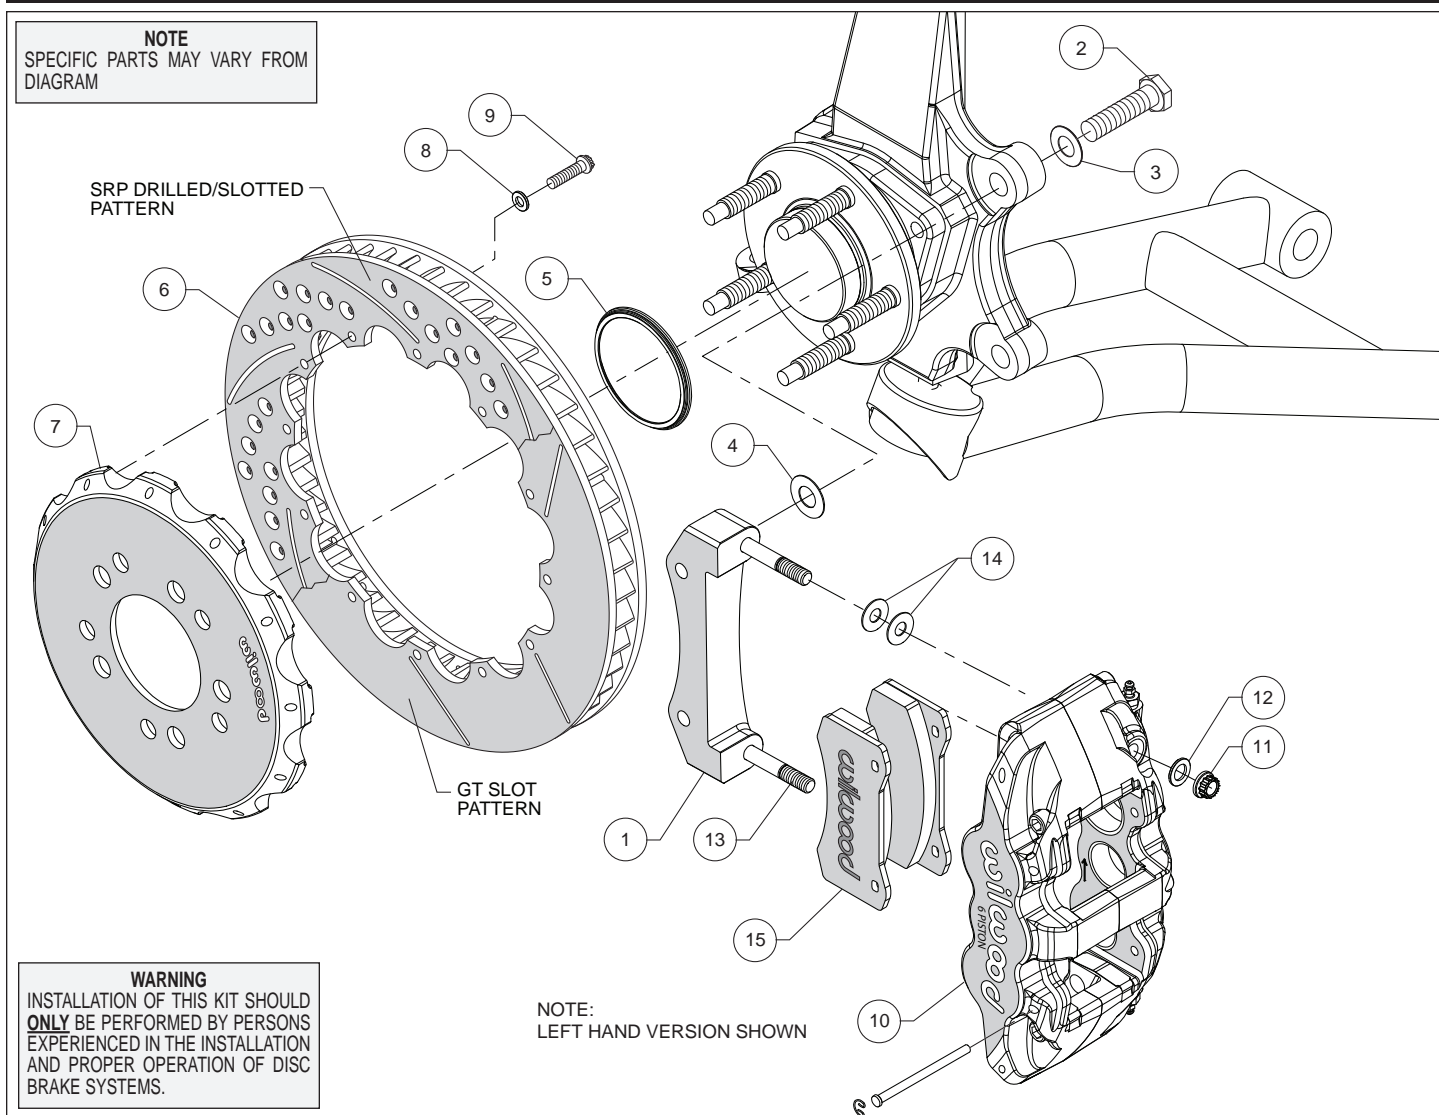
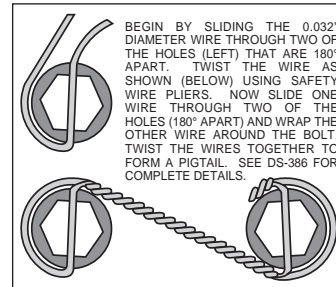

Figure 1. Typical Installation Configuration
Figure 3. Safety Wire Diagram
Assembly Instructions (numbers in parenthesis refer to the parts list and Figure 1 on the preceding pages):
- The caliper mount bracket (1) should initially be installed with clean, dry threads on the mounting bolts. Orient the bracket as shown in Figure 1, and install using bolts (2) and washers (3). Initially place one .029 thick shim (4) on each bolt between the bracket and upright, Figure 1. Temporarily tighten the mounting bolts. **NOTE:** *The bracket must fit squarely against the mount bosses on the upright.* Inspect for interference from casting irregularities, machining ridges, burrs, etc. Later, after the caliper alignment has been checked, the mount bolts will be secured using red *Loctite*® 271.
- Orient the rotor (6) and the hat (7) as shown in Figure 1 and Photo 1. Attach rotor to hat using bolts (9) and washers (8). Using an alternating sequence, apply red *Loctite*® 271 to the threads, and torque to 155 **in-lbs**. For an added measure of security, the bolts may be safety wired using standard 0.032 inch diameter stainless steel safety wire as shown in Figure 3. Please refer to Wilwood's data sheet DS-386 (available at www.wilwood.com/Pdf/DataSheets/ds386.pdf) for complete safety wire installation instructions.
- Slide the rotor registration adapter (5) onto the axle register on the hub assembly with the smaller O.D. facing outward, Photo 2. Slide the hat/rotor assembly (6/7) onto the hub assembly. **NOTE:** *The hat must fit flush against the hub flange or excessive rotor run out may result.* Install three lug nuts (finger tight) to keep the hat/rotor assembly in place while continuing with the installation.
- NOTE:** *This kit contains distinct right and left hand calipers that must be mounted in a specific direction, as described below.* Lubricate the caliper mounting studs (13) with lightweight oil. Initially place two .035" thick shims (14) on each stud as shown in Figure 1 and Photo 3. Mount the caliper (10) onto the bracket (1) using lock nuts (11) and washers (12), Figure 1. Ensure that the caliper is mounted so that the largest pistons are at the rotor exit end of the caliper, in relation to the direction of rotor rotation. Temporarily tighten the lock nuts and view the rotor through the top opening of the caliper. The rotor should be centered in the caliper, Photo 4. If not, adjust by adding or subtracting shims (4) between the bracket and the upright. Always use the same amount of shims on each of the two mounting bolts. Once the caliper alignment is correct, remove the bracket mounting bolts (2) one at a time, apply red *Loctite*® 271 to the threads, and torque to 77 ft-lb.
- Remove the two pad retaining pins from the caliper (10) by carefully popping out the pin retaining clips and sliding out the pins. Insert the brake pads (15) into the caliper from the bottom, Figure 1 and Photo 5. With the friction material facing the rotor, secure the brake pads in place with the pad retaining pins and clips, Photo 6. Reinstall the caliper onto the caliper mounting bracket and temporarily tighten the lock nuts. Check that the top of the brake pad is flush with the outside diameter of the rotor, Photo 7. If not, adjust by adding or subtracting shims (14) between the caliper and the bracket. After the caliper pad height is set, torque the caliper lock nuts (11) to 47 ft-lb.